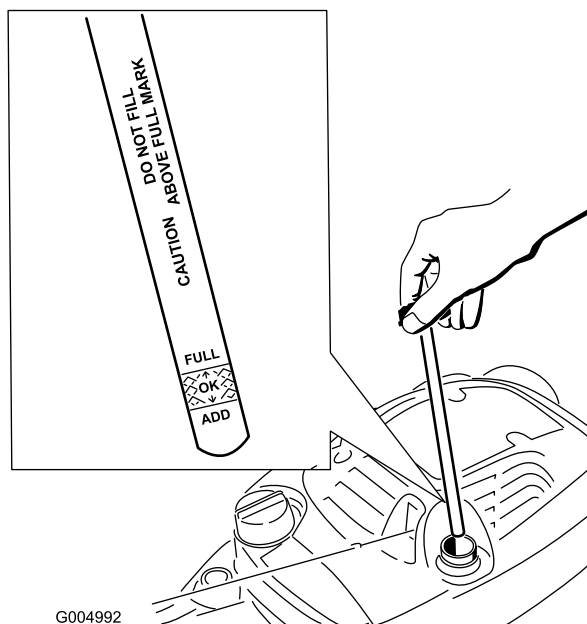

Figure 21
2. Retirez la jauge (Figure 21).